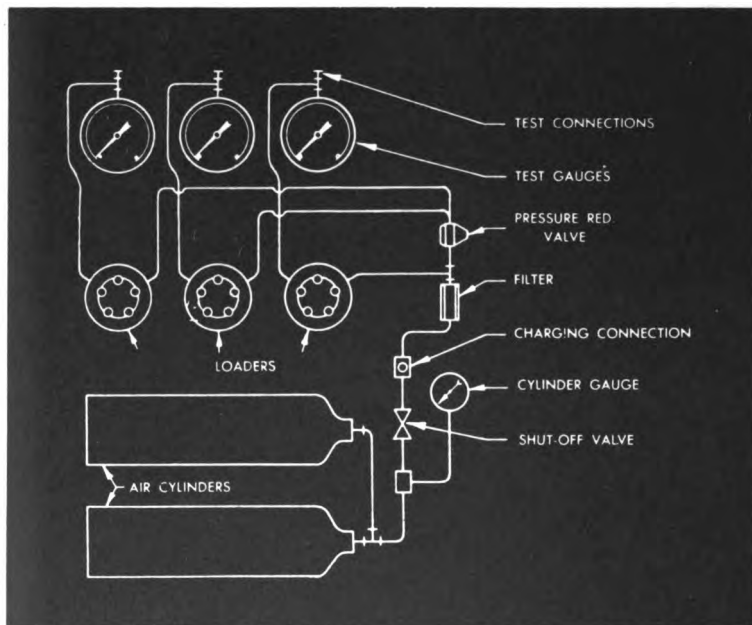

Figure 256. — Connection diagram — testing three pressure gauges with comparator.
Each of the range test units consists of a manually operated loader (pressure reducing valve) directly connected to a laboratory test gauge, which is accurate to within one-fourth of 1 percent of the maximum reading to which the scale is graduated. The necessary testing pressures are supplied from built-in high-capacity rechargeable gas cylinders. (See figure 256.) Although the comparator is primarily designed as a portable gauge tester, it can be permanently mounted.
24. The principle parts of the pneumatic gage comparator are: the loaders, the air cylinders, the test pressure shut off valve, the test connections, the air cylinder gage, the pressure reducing valve and the filter. Make a drawing of the diagram shown in figure 256 and label these parts. (Do not write in the book.)